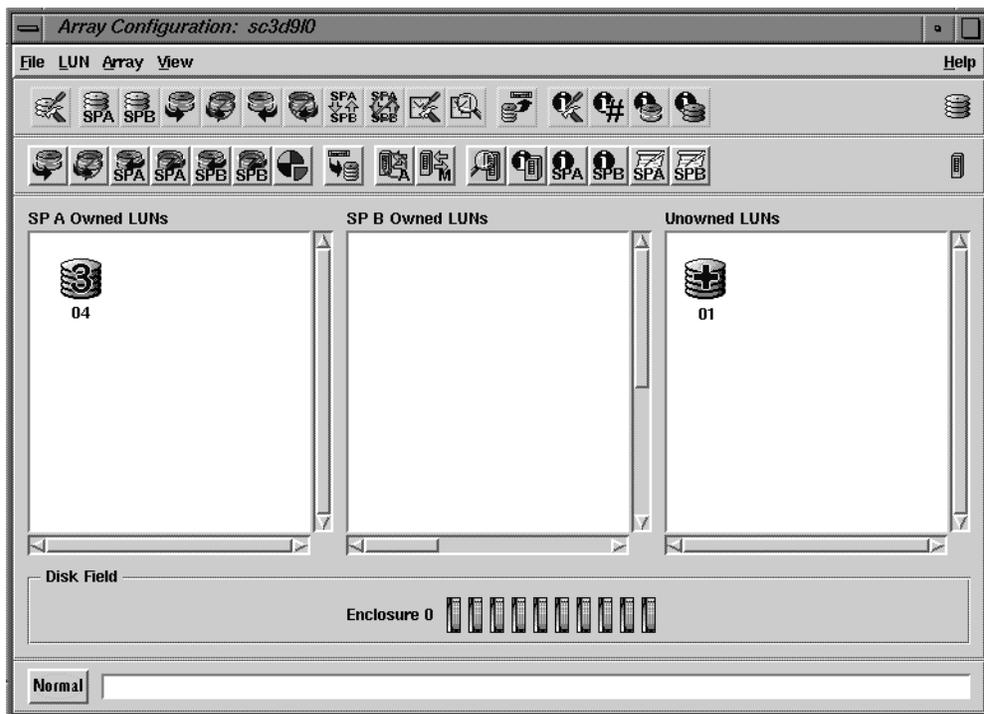

Figure 3-2 Array Configuration Window
2. Click the configure button at the left end of the toolbar, or choose Configure from the Array menu to open the Array Configuration window for the selected array. Figure 3-2 shows this window.